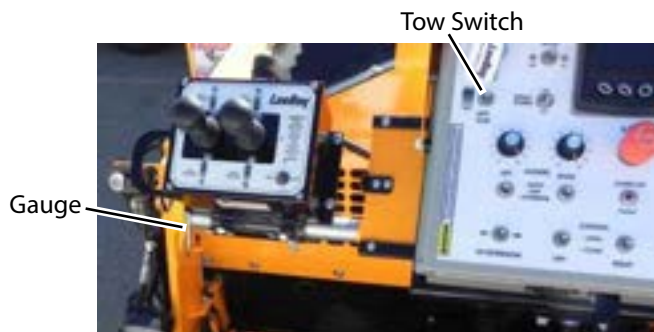

Figure 4-44. Electric Flight Screw
The electric flight screw is an added convenience to the operator for making automatic, minor adjustments to mat thickness while paving. A screed height gauge is located on both sides of the paver to provide the operator with a quick reference to the location of the electric screw. **(Figure 4-44)**
1. Before paving, refer to the screed elevation gauge (located on both sides of the operator platform, left side shown). **(Figure 4-44)**
3. Set the Tow switch on both sides to thicker or thinner for desired asphalt thickness. **(Figure 4-44)**